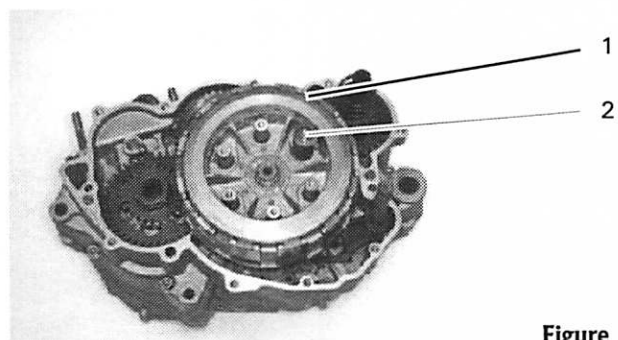
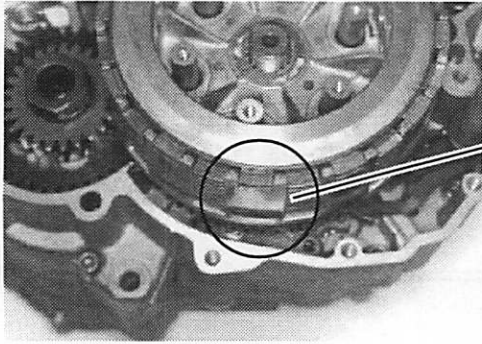

Figure 112
Figure 113
4. Install the clutch plate assembly (1, Figure 112).
5. Remove the bolt, washer and spring (2, Figure 112), the position the outer friction plate so that its tabs fit into the clutch drum notches (Figure 113).